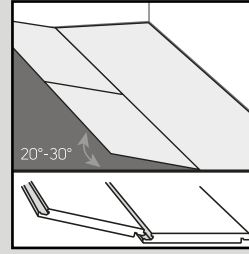
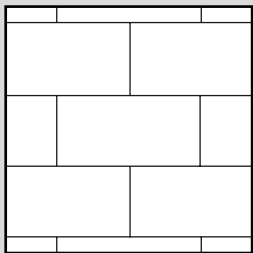
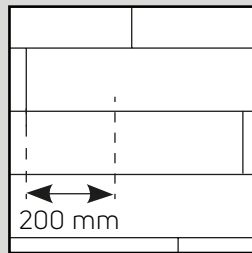

Fig. 3
Fig. 3a
Fig. 3b
Such that four corners never meet. Refer to installation Fig.3a / 3b.
- Start the second row by clicking the tongue into the groove holding the plank at an angle (approximately 30°), then push the plank/tile firmly into the groove of the first row. Install the next plank/tile by clicking the tongue and groove together along the short edge. Ease the tongue and groove together on the long side by angling the planks/tiles together (Fig. 3). Tiles and planks should be installed 'off-set' such that four corners never meet (Fig. 3a and Fig. 3b).